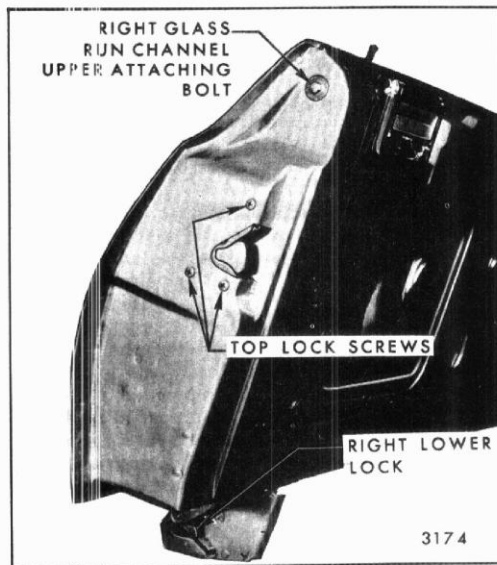

Fig. 9-23-Dual Acting Tail Gate Right Upper and Lower Lock Attachment
5. Lower tail gate to a full-open position and remove torque rod retainers along bottom of tail gate assembly (Figure 9-23).